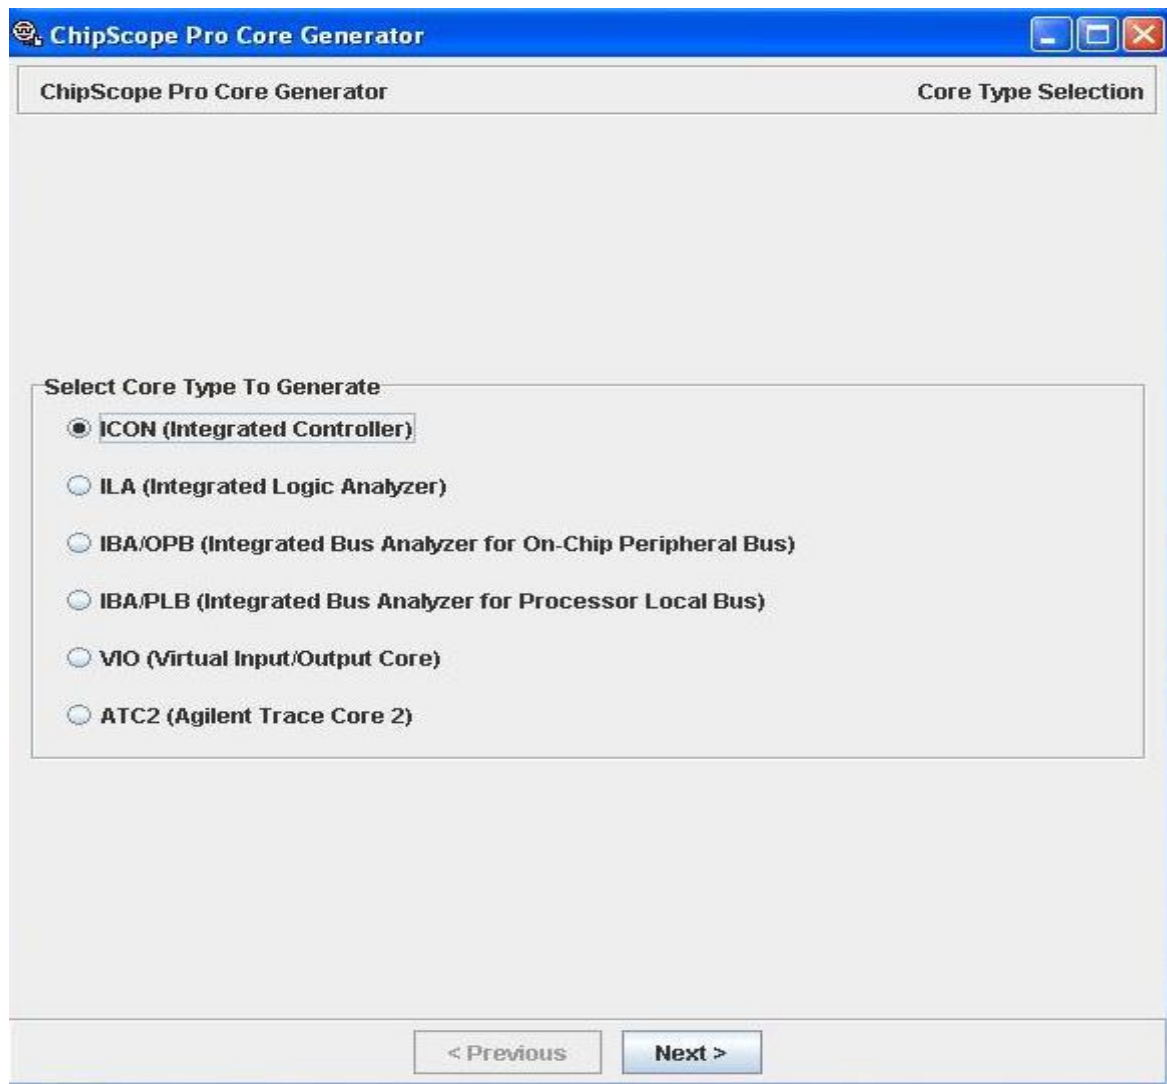

Fig 5.1: Selecting type of core
3. So select **ICON** and click on **Next** as shown in Fig 5.1.